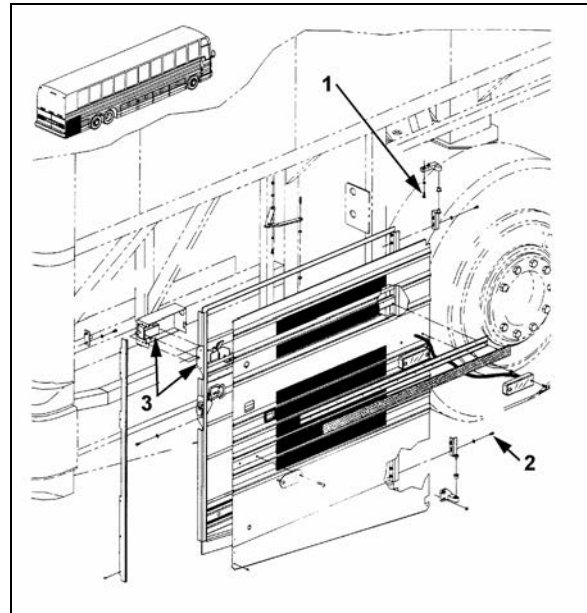

FIGURE 45: ENGINE COMPARTMENT R. H. SIDE DOOR
1. Loosen the bolts, (1, Fig. 45) holding the hinge to the vehicle structure to shift the door "IN or OUT" and "UP or DOWN".
2. Loosening the bolts (2, Fig. 45) allows the door to be shifted "LEFT or RIGHT" and "UP or DOWN".
To adjust the latch mechanism (3, Fig. 45) and the striker pin: